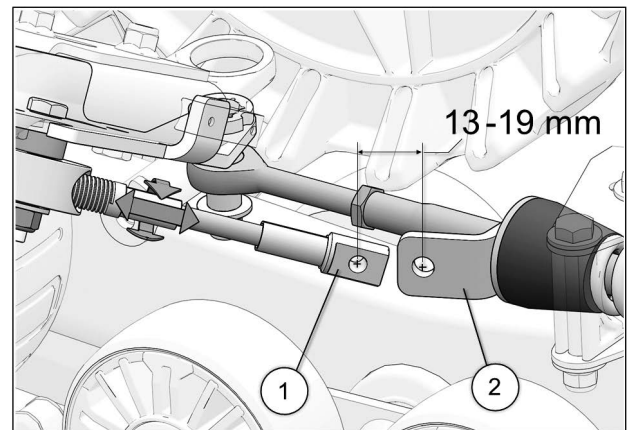

Fig. 37
20. Turn the vehicle's steering wheel to its maximum point of travel on the left. While maintaining pressure on the steering wheel, turn threaded rod to adjust length of cable. See Fig. 37
21. Position cable end hole (1) 13-19 mm short of support plate mounting hole (2). See Fig. 37